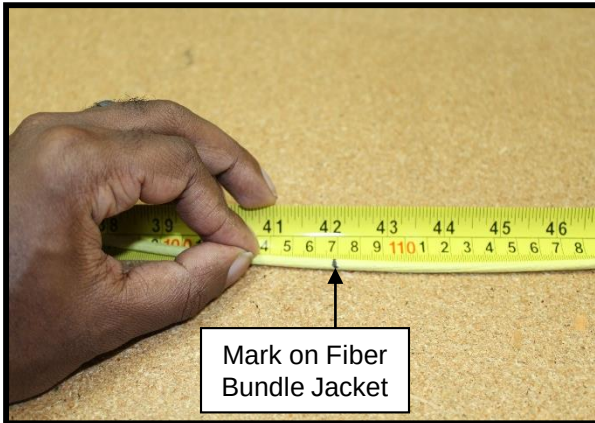

Figure 18
13.2 Use a felt tip pen to mark Fiber Bundle outer foam jacket at appropriate location for jacket removal. **See Fig. 18.**